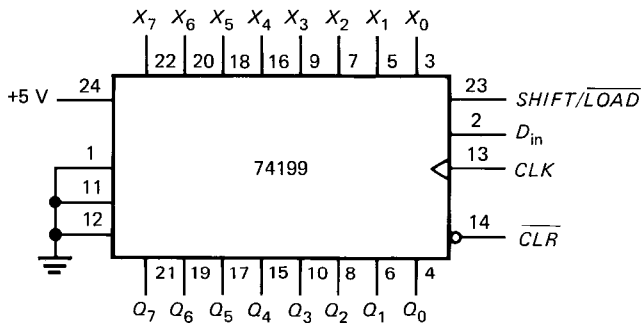

Fig. 8-30
- 8-5. The clock frequency is 2 MHz. How long will it take to serially load the shift register of Fig. 8-30?
- 8-6. In Fig. 8-30, $\mathbf{Q} = 0001\ 0110$. If $\overline{SHIFT/LOAD}$ is high and D_{in} is high, what does \mathbf{Q} equal after three clock pulses?
- 8-4. A 74199 is an 8-bit shift-left register with a single control signal, as shown in Fig. 8-30. When $\overline{SHIFT/LOAD}$ is low, the circuit loads the \mathbf{X} word on the next positive clock edge. When $\overline{SHIFT/LOAD}$ is high, the register shifts the bits to the left.